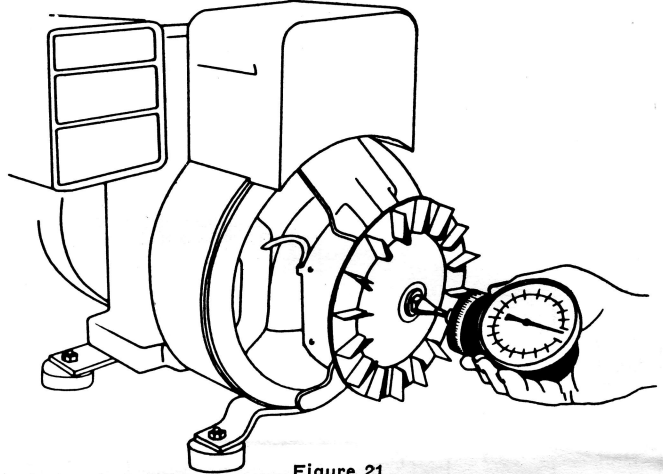

Figure 21
2. Check the engine speed. Refer to the article "Required Operating Speed". The speed of these generators can be checked easily with a tachometer by applying it directly to the end of the engine crankshaft or removing the cover from the end of the generator and applying the tachometer as shown in Figure 21. If the engine cannot be kept up to a specified speed when the generator is loaded to its rated capacity something is wrong with this engine. See the engine instruction book for probable causes.